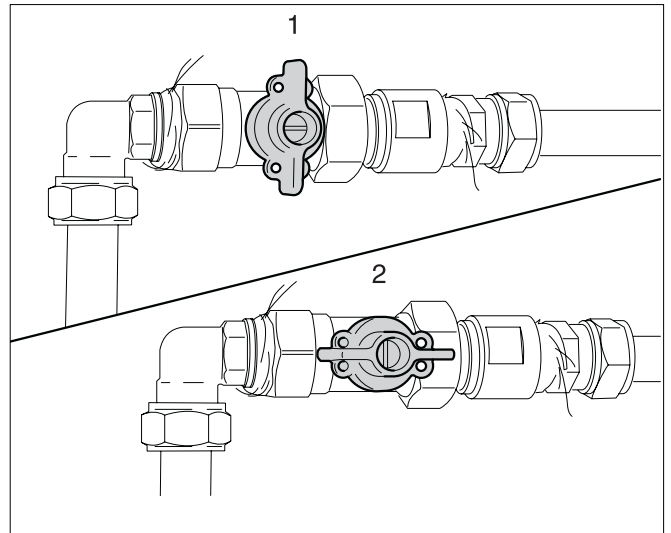

Fig. 80 Gas shut-off valve closed (1), gas shut-off valve open (2)
- Close the gas shut-off valve (see fig. 80, pos. 1).